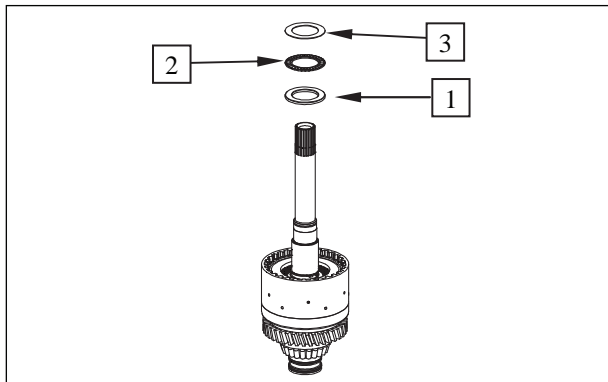

Figure 16
**Contact for axial bearing - see Figure 16!**